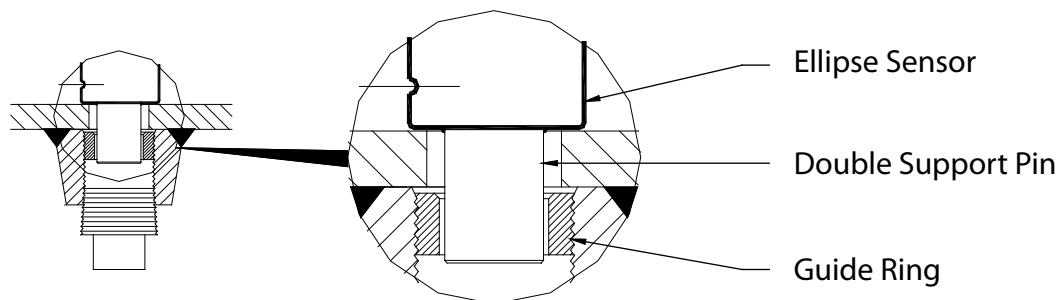

Figure 4: Double support pin
3. Install the AHZ Ellipse sensor through the two holes. Make sure that the double support pin passes through the guide ring. See Figure 4.